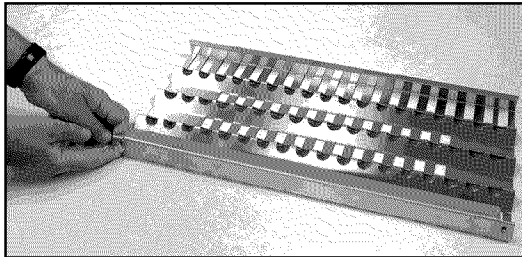

FIG. 35
2. Unlock radiant end cap by pushing it up with two fingers (Fig. 35).
- a) Unlock radiant end cap by pushing it up with two fingers (Fig. 35) or pliers may be used.